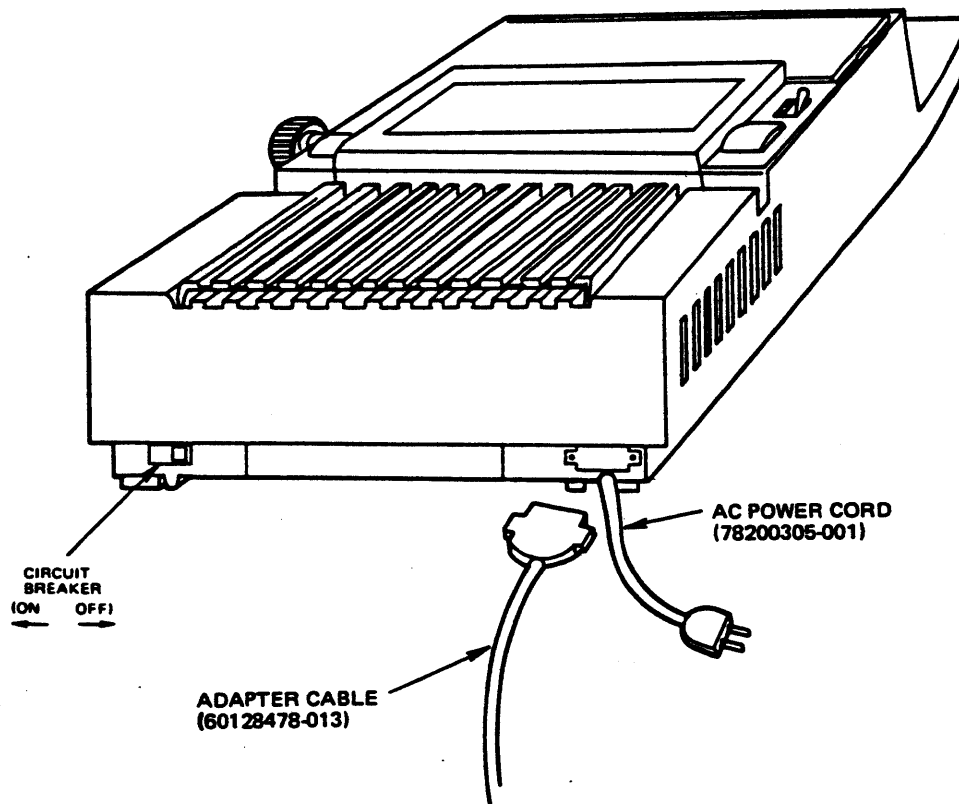

Figure 3-46 DCF6606 Console (Rear View)
2. Ensure that the console power ON/OFF switch at the rear of the console (Figure 3-46) is in the OFF position.